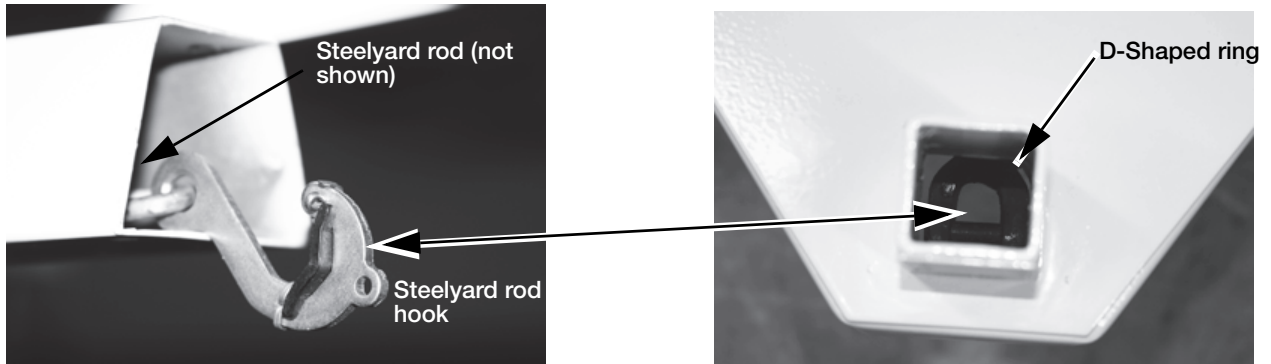

Figure 2-6. Attach Steelyard Rod to the Scale Base D-Ring
6. Attach the steelyard rod to the bottom of the scale using the J-hook. Figure 2-6 shows the hook of the steelyard rod and an inside photo of the ring in the scale bottom. Latch the hook onto the D-shaped ring.